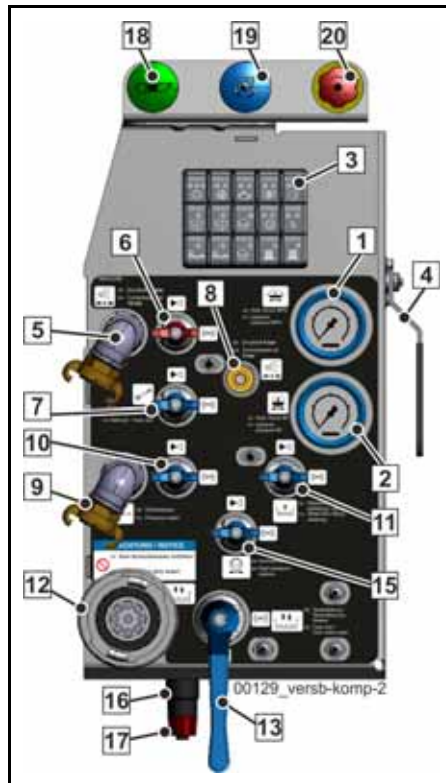

Fig. 315 Pressure gauge for concrete pump
The indicator on the concrete pump pressure gauge (2) on the rear of the machine (**Fig. 315**) must increase to the value set for the pressure cut-off.